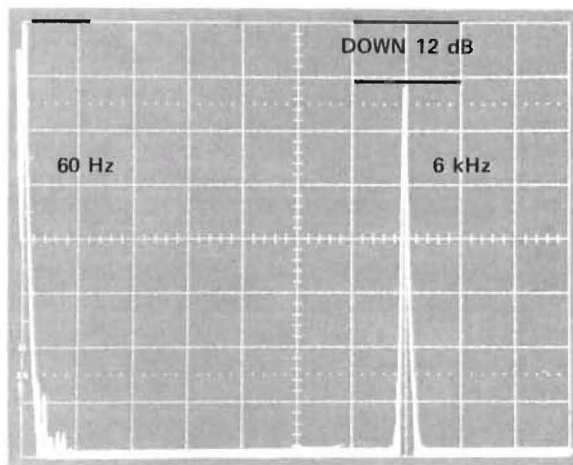

Figure 27 SMPTE Modulation Method Generator Output
2. For the SMPTE Modulation method, select 60 Hz and 6000 Hz (7000 Hz for IHFM) in a voltage ratio of 4:1. This means that the 6000 Hz tone will be down 12 dB from the 60 Hz tone. This two tone generator setup can be checked directly with a low frequency analyzer (Figure 27).